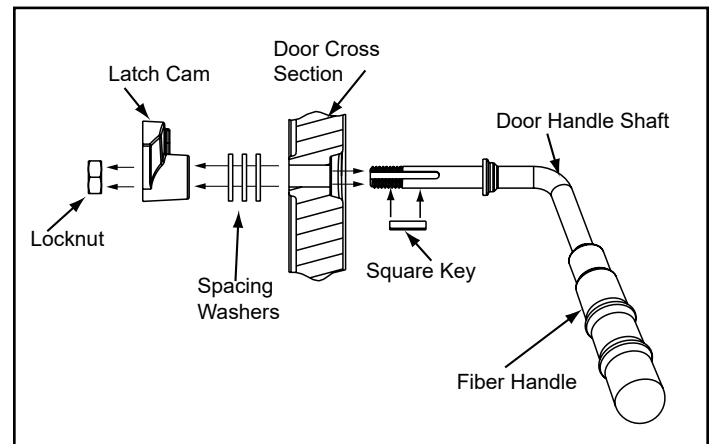

Figure 22.2
2. Install additional washer(s) as shown in **Figure 22.2**.
6. Install fiber handle (**Figure 22.2**).